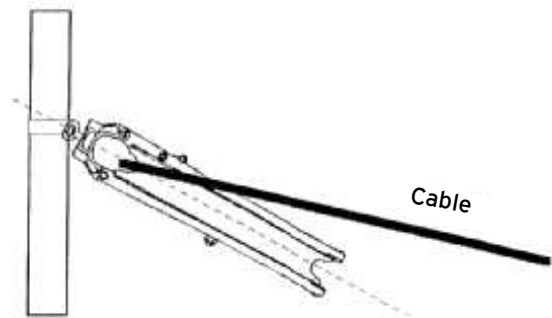

Figure 4. Incorrect Traveler
**Traveler Installation:** Each structure in the pulling segment must have a traveler installed and a pulling rope threaded (reeved) through it. Each traveler must be balanced so that the rope, and the following ADSS cable, ride at the bottom of the neoprene insert's groove. It is important to tie up the traveler at each angle so the pulling rope and ADSS cable enter and exit the traveler smoothly (See Figures 4 and 5 at right). If the cable enters at an angle, it increases the chance of jumping from the traveler groove into space between the traveler and the yoke holding the traveler to the pole. This would cause severe damage to the cable.